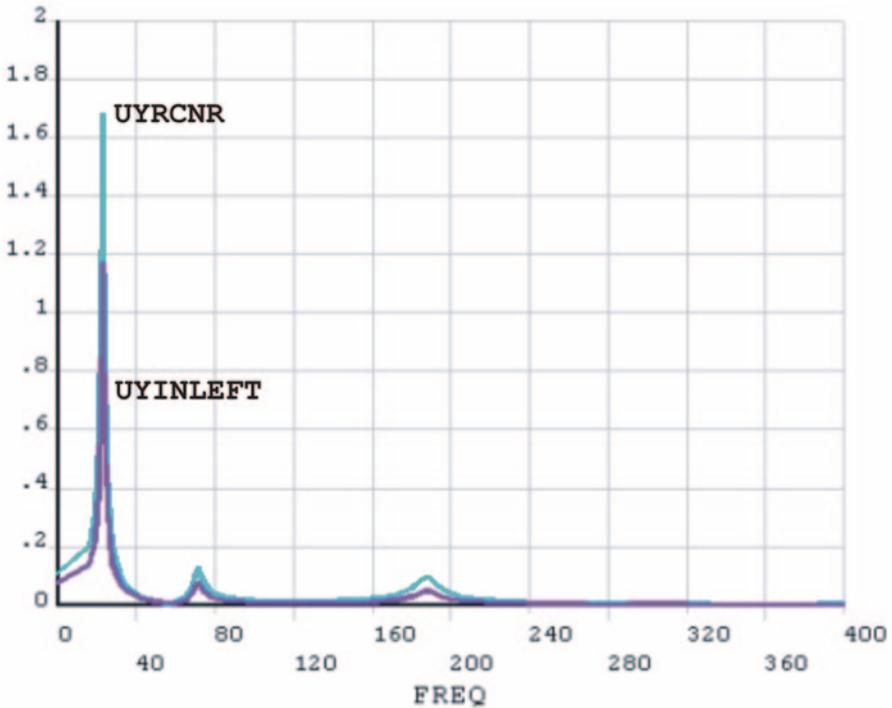

Fig. 8.87 Amplitudes of the displacements at two locations as functions of frequency under harmonic loading
- The plot appears in the *Graphics Window*, as shown in Fig. 8.87.